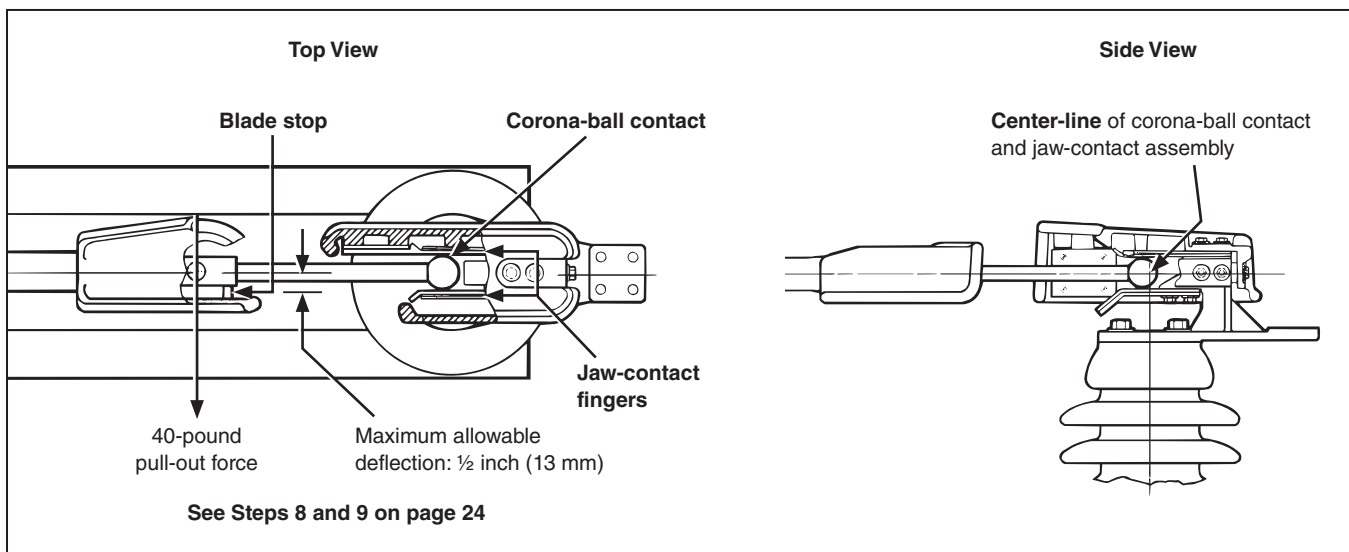

Figure 24. Checking the engagement of the disconnect-blade corona-ball contact with the jaw-contact fingers.
STEP 4. Close the disconnect blade on each pole-unit. The disconnect-blade corona-ball contact must be centered on its jaw-contact fingers, and the blade must touch its stop as indicated in Figure 24.
STEP 7. Check for proper blade closure at the center pole-unit marked “Pole 2.” With a pull-out force of approximately 40 pounds applied at the position indicated in Figure 24 on page 22, the blade deflection should be no more than ½-inch (13 mm).
STEP 8. Check for proper blade closure at the two outboard pole-units marked “Pole 1” and “Pole 3.” With a pull-out force of approximately 40 pounds applied at the position indicated in Figure 24 on page 22, the blade deflection should be no more than ½ inch (13 mm).